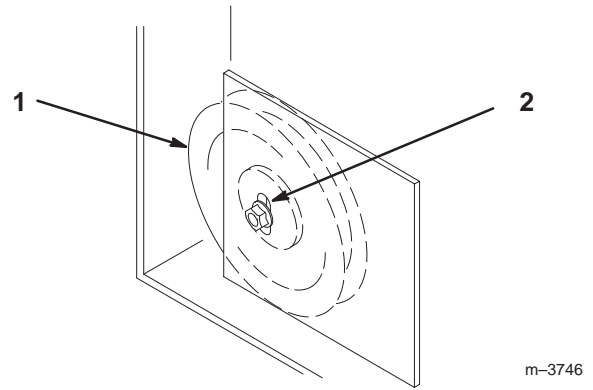

Figure 57
7. If adjustment is required, loosen the fixed idler on right support plate and move up or down in adjustment slot (Fig. 57). To relieve belt tension lift up on spring loaded idler.